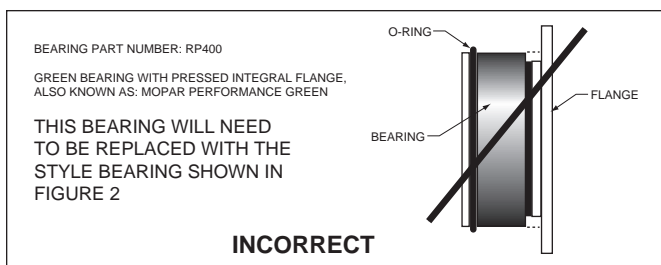
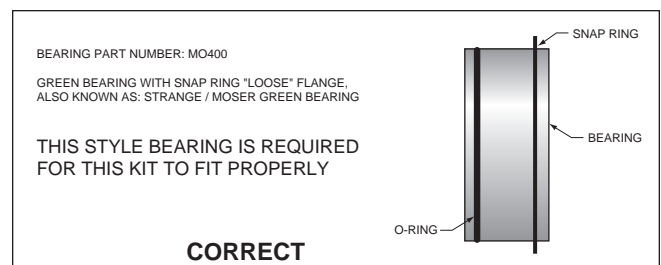
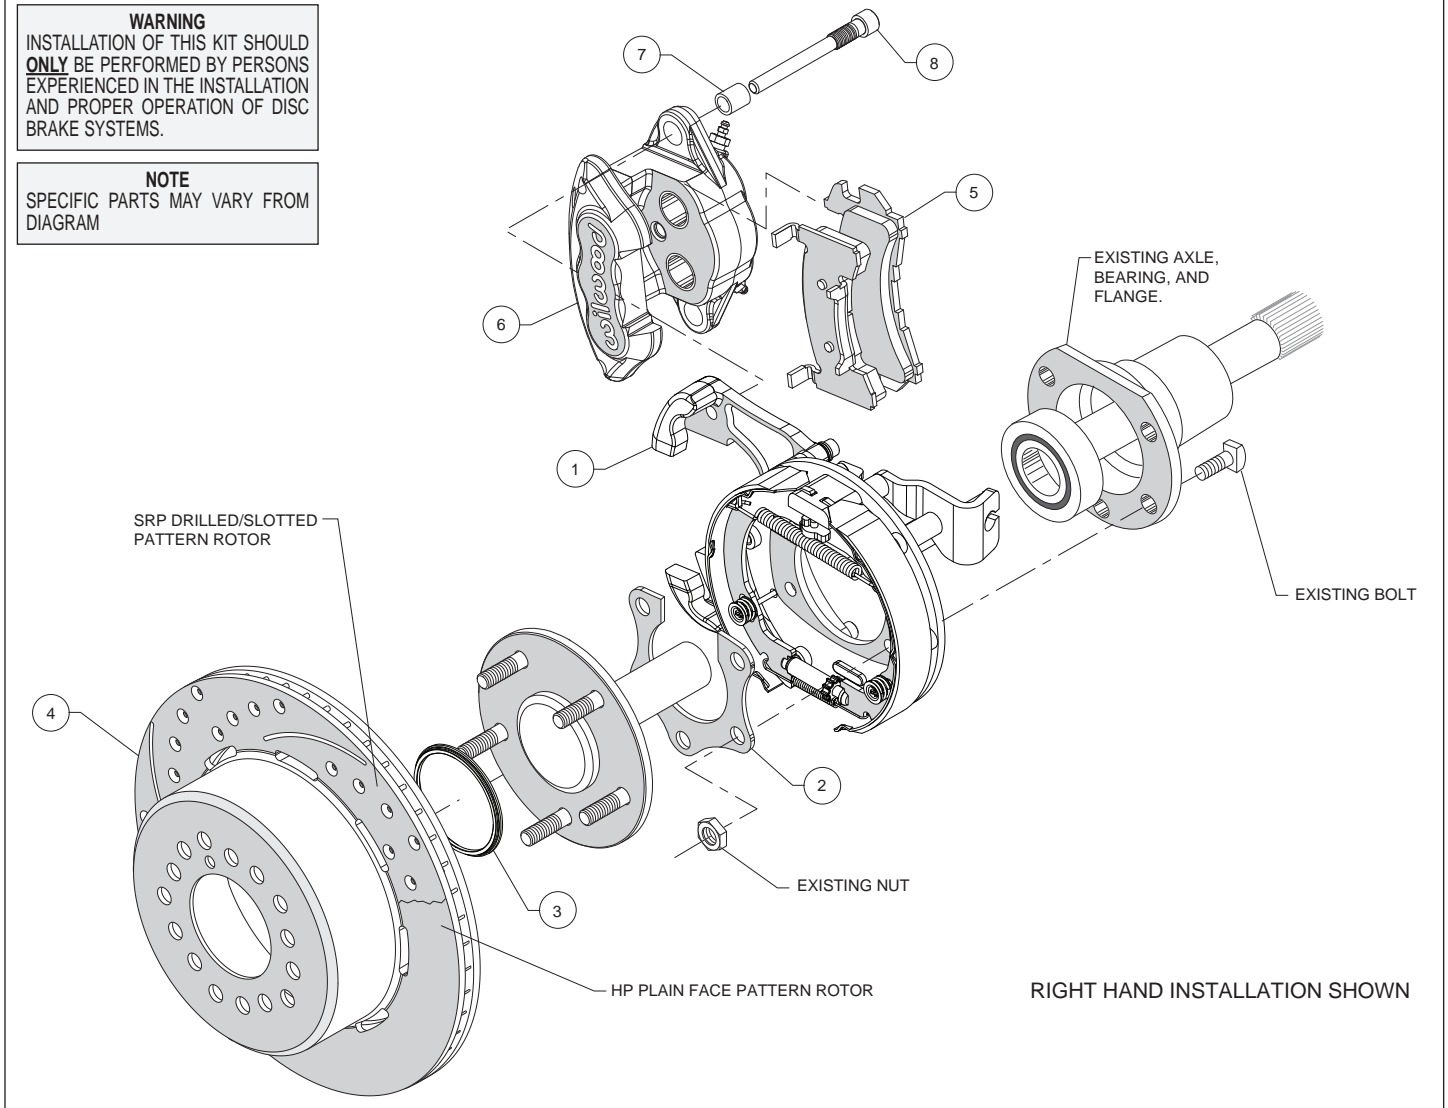

Figure 1. Press Fit Bearing Configuration
Figure 2. Loose Fit Bearing Configuration
Figure 3. Typical Installation Configuration
- There are two types of “Green Bearings” being supplied by axle manufacturers. Your setup should look like Figure 2 (below right), not the Figure 1 configuration, otherwise this kit will not fit.
Assembly Instructions (numbers in parenthesis refer to the parts list, and Figure 3 on the preceding pages): **CAUTION:** All mounting bolts must fully engage threaded holes.
• Determine that the appropriate snap ring style green bearing has been installed on the axle, as shown in Figure 2. Temporarily remove snap ring from bearing. Orient the bracket assembly (1) as shown in Figure 3 and Photo 1 and slide it onto the axle and over the bearing. Reinstall snap ring on bearing. Insert the axle and bracket into the axle housing. Ensure that the bracket assembly backing plate fits flush against the axle housing flange.
• Install the bearing retainer (2) with the opening pointing upward and the bearing relief step facing inward (toward the bearing), as shown in Figures 3 and 6. Secure retainer and bracket assembly to the axle housing flange using the Original Equipment Manufacturer (OEM) bolts and nuts, Figure 3. Apply red *Loctite*® 271 to the OEM bolt threads and torque to OEM specifications.
• Slide the rotor registration adapter (3) onto the axle register on the axle flange with the smaller O.D. facing toward the rotor/hat (4), Photo 2. Align the correct hole pattern in the rotor/hat with the stud pattern on the axle flange and slide into place, Figure 3 and Photo 3. **NOTE:** The rotor/hat must fit flush against the axle flange or excessive rotor run out may result. Install three lug nuts (finger tight) to keep the rotor/hat assembly in place while continuing with the installation. **NOTE:** Some OEM and after market axles come with stud sizes larger than 0.50" diameter. Verify stud size and have a qualified machine shop drill the bolt circle of the hat/rotor to the correct stud size, if necessary.
• Install the disc brake pads (5) into the caliper (6) with the friction material facing the rotor, as shown in Figure 3 and Photo 4.
• Install sleeves (7) onto slide pin bolts (8). Apply white lithium grease (available from your local auto parts store) to the slide pins/sleeves, as shown in Photo 5. **Do not apply to threads.** Mount the caliper (6) onto the mounting bracket (1) using slide pin bolts, as shown in Figure 3. Torque to 35 ft-lbs.